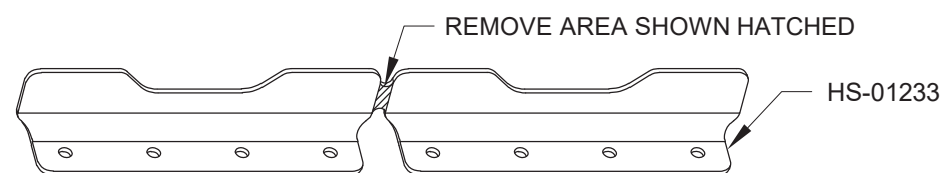

FIGURE 4:
Step 6: Separate the HS-01233 Horn Attach Angles. See Figure 4.